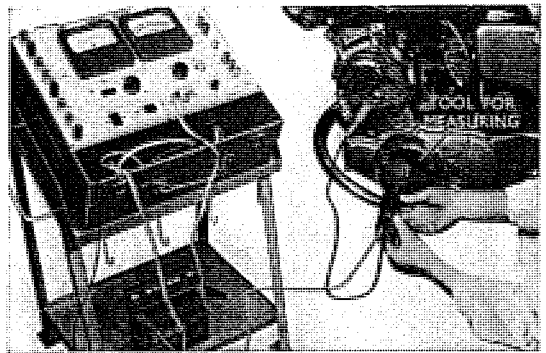

Fig. 6.13 Spark advance arm
- h. Loosen the two breaker retaining screws and adjust (b) with a screwdriver. When (b) is rotated in a clockwise direction, the sparking occurs later. If rotated to the left the sparking occurs sooner. (Refer to Fig. 6.13)
- i. To adjust the point clearance, use a timing light to check the spark. (Refer to Fig. 6.13)